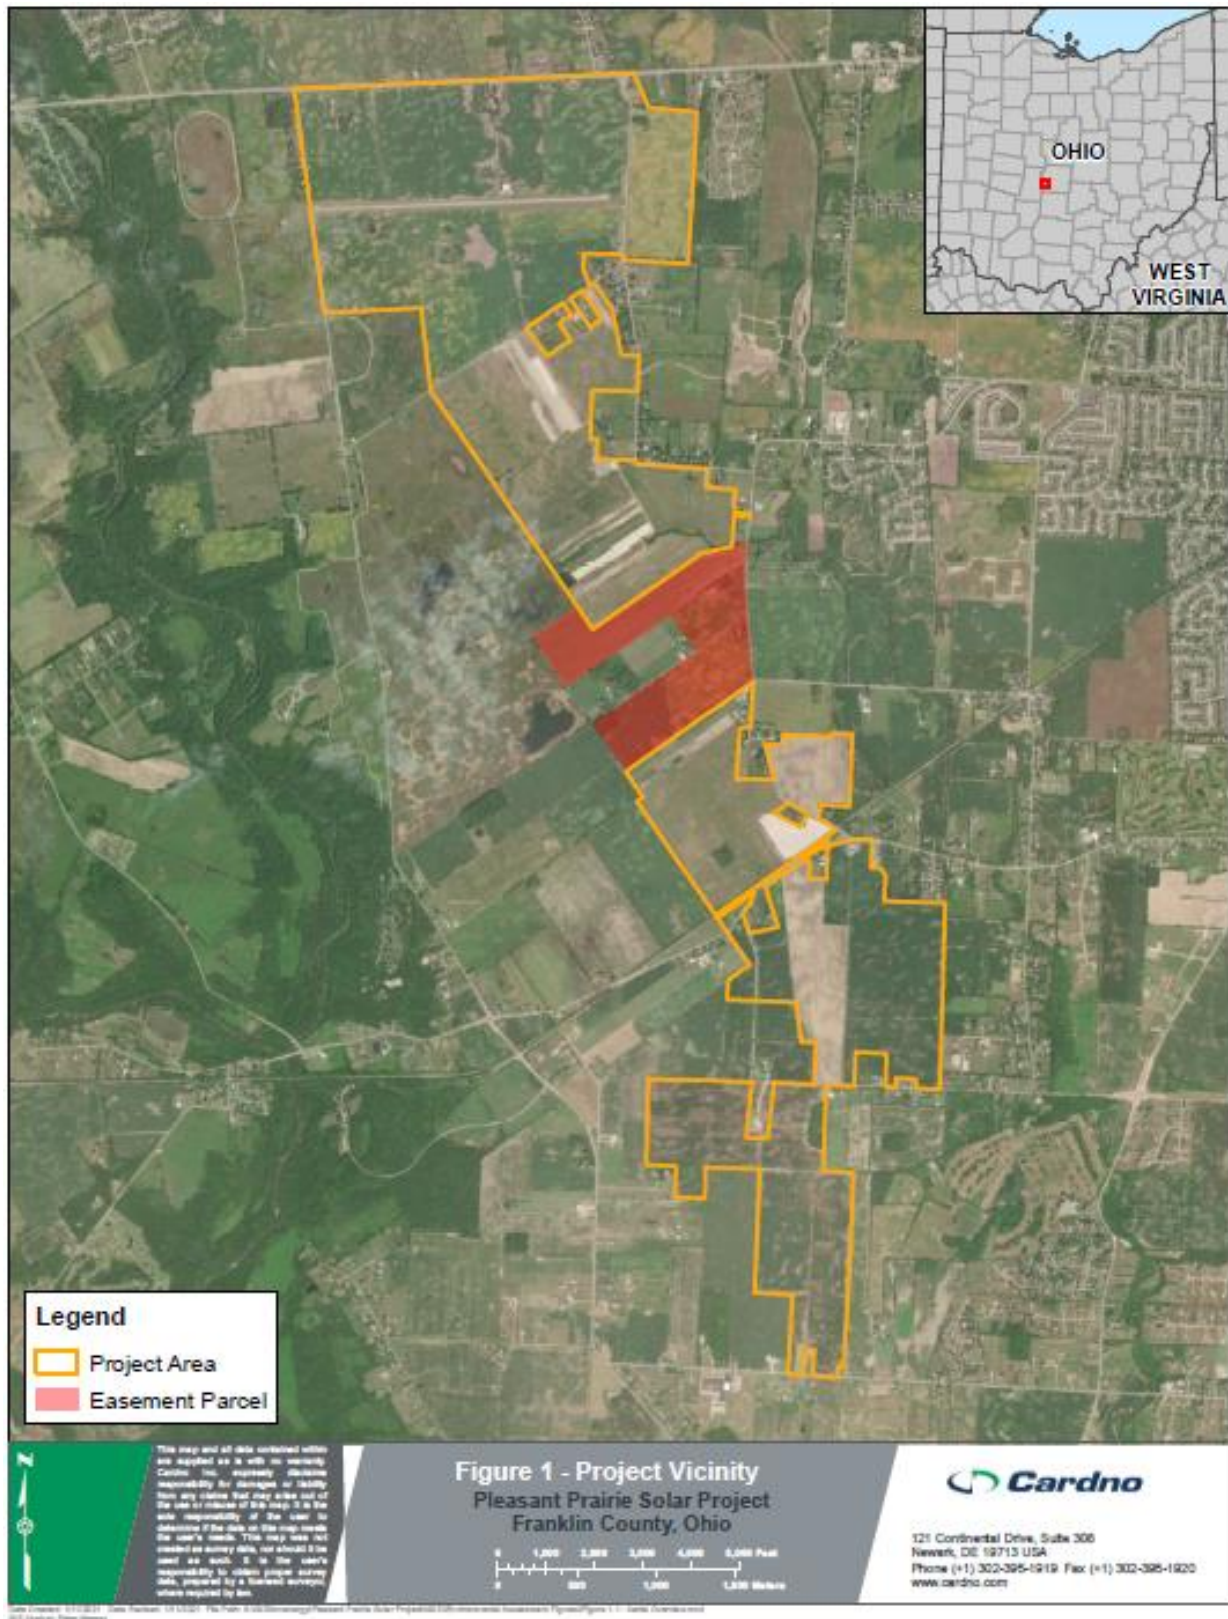

Figure 1. Pleasant Prairie Solar Project Vicinity Map in Central Ohio
Pleasant Prairie Solar Energy, LLC (Pleasant Prairie) is developing the Pleasant Prairie Solar Energy Project (Project), a 250 megawatt (MW) solar energy facility located in Franklin County, Ohio (Figure 1). As part of the planning for this site, Cardno, Inc. has developed this Drain Tile Mitigation Plan to ensure the continued operation of the existing drainage tiles within and adjacent to the Project.